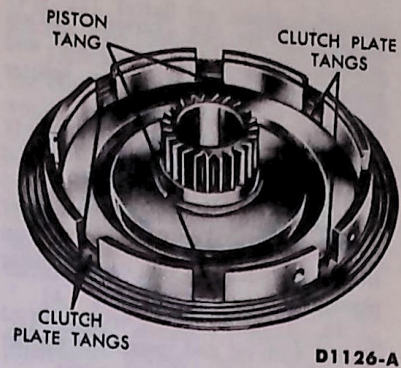

FIG. 58 Low-Splitter Clutch Plate Installation
26. On models using a six tang plate, install the low-splitter clutch friction plate on the high-splitter clutch housing so that the high-splitter clutch housing so that the six internal tangs do not engage the slots in the housing where the high-splitter piston tangs are located (Fig. 58). If the tangs are installed in the same slots, in error, both splitter clutches will be applied when the high-splitter piston is actuated.